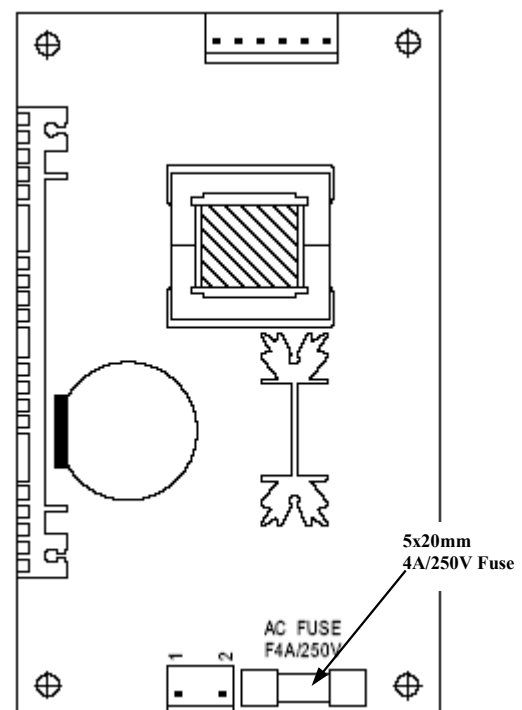

Figure 29 - Power Supply Fuse Location
- 3) Using a non-conducting fuse puller, remove the old fuse (see Figure 29).